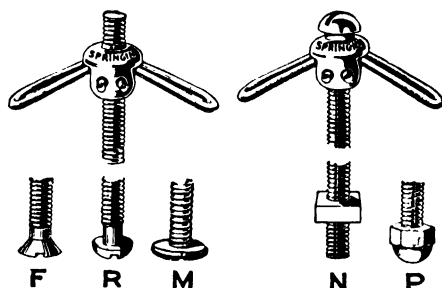

Fig. 48. Toggle Bolts with Different Types of Screw Heads
**Toggle-Bolts.** These bolts come in two types, as shown in Fig. 48. One type shows the toggle hinged to the nut, and, the other type shows the toggle hinged to the head of the bolt. The toggle arms are normally held outward by the action of springs within them. Toggle-bolts can be used only on hollow walls or ceilings,